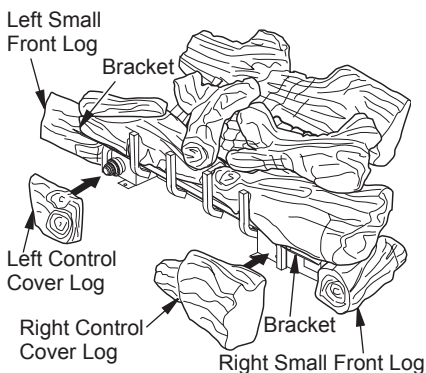

Figure 23 - Installing LBG36-SM Model Control Cover Logs
7. For LTF36-SM, the front right and left logs are longer and are supported with brackets on each end (see Figure 23). Place left and right small front logs under left bracket and beside right bracket.